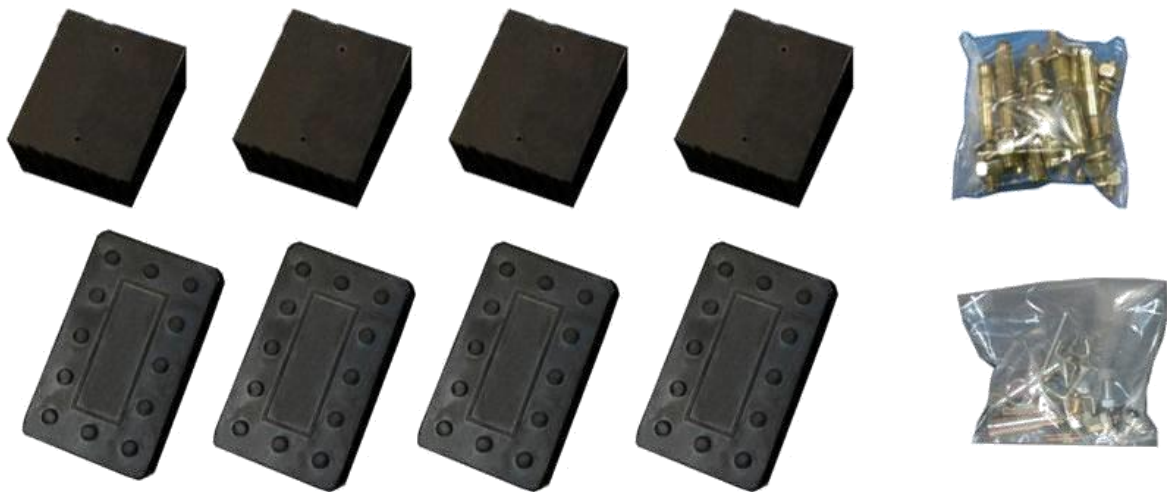

Fig. 6
3. Open the parts box, check the parts according to the part list (**See Fig. 6**).